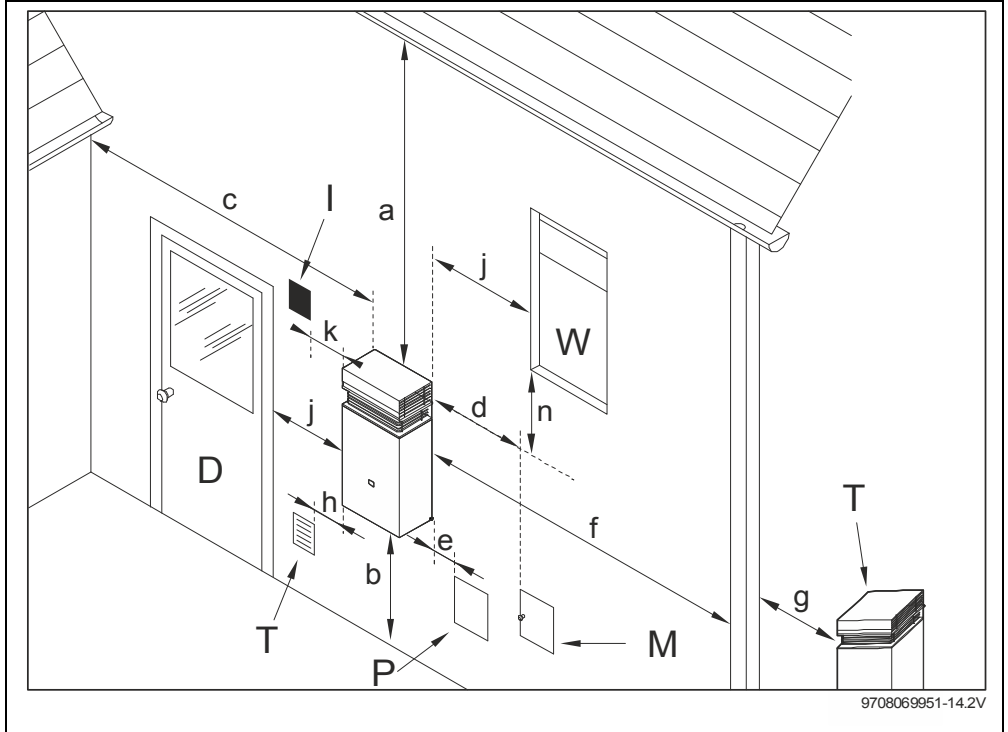

Fig. 5 Minimum clearances (use as a guide only, always refer to AS/NZS5601)
- Install the appliance in accordance with the minimum installation clearances indicated in Fig. 5, according to AS5601.